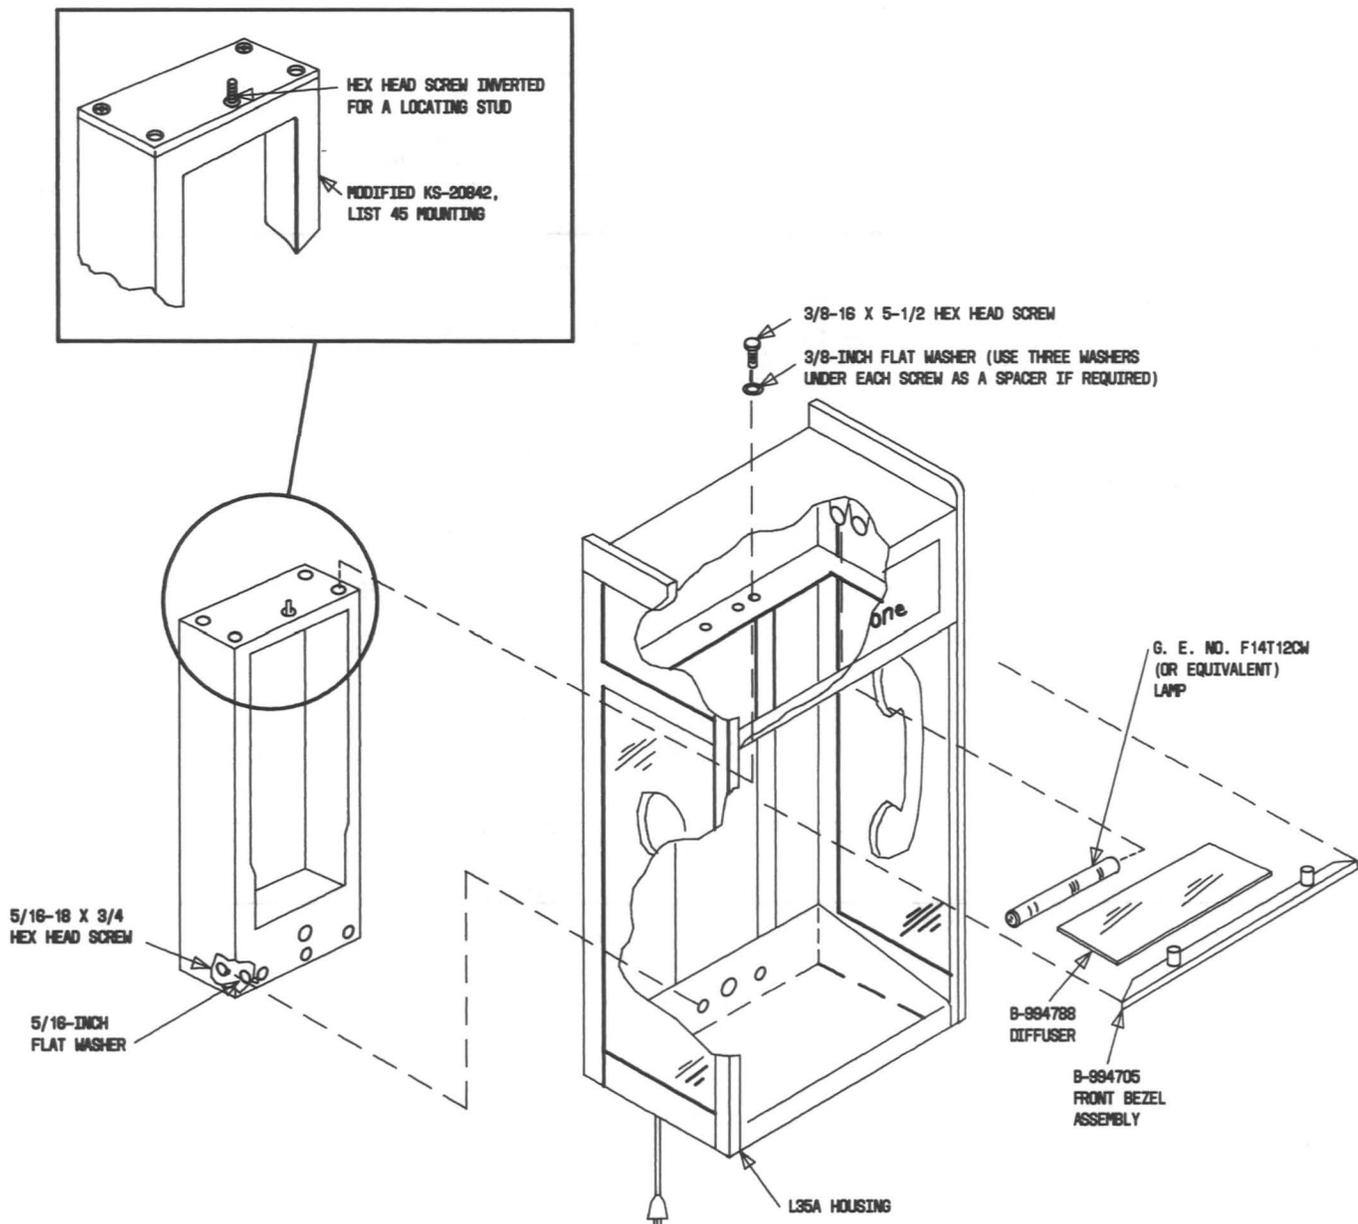

Fig. 20—Installation of KS-20842, List 35A Housing
- (1) Using a KS-19192, List 1 wrench, remove two security screws from rear of diffuser. Slide the diffuser to the rear and remove.
- (2) **DANGER: Eye injury could occur if fluorescent lamp is broken.** Remove the two fluorescent lamps from the light fixture.
- (3) Repeat the procedures outlined in paragraph 3.12, Steps (3) through (12).
- (4) Install diffuser in housing and secure it with the two security screws removed in Step (1) using a KS-19192, List 1 wrench.
C. KS-20842, List 35A Housing (Fig. 20)